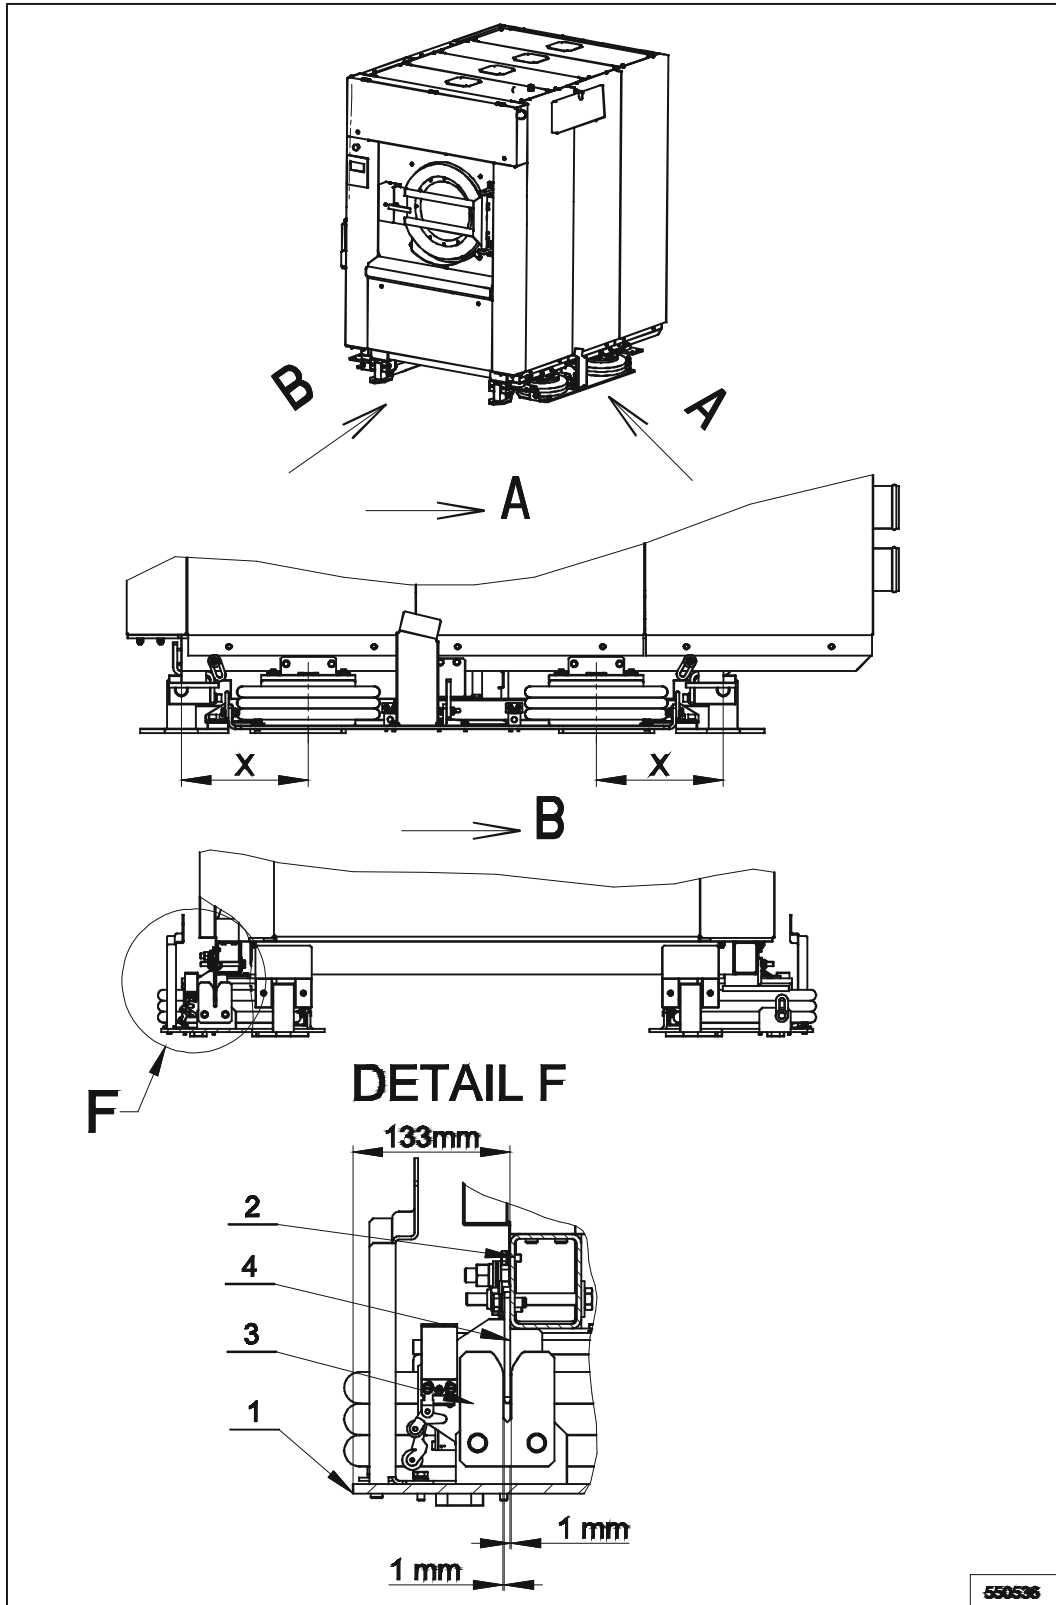

Figure 4.3.L. – Machines 80-100-120 kg / 180-230-275 lb with two-way tilting (forward and backward)
2. Adjust the distance between the air spring plate side (figure 4.3.L., pos.1) and the machine frame (pos. 2) to **133 mm / 5.24"** – see the detailed view **F**.
3. Set the **X** distance (see detailed view **A**) i.e. the distance between the axis of the air springs on the plate (pos.1) from the machine frame. The **X** dimension is the same for both sides.
4. The detail view **F** shows the adjustment of free play between the plates - pos. 3 and 4 on both sides. The distance shall be **1 mm / 0.04"**.
Figure 4.3.M – Machines 80-100-120 kg / 180-230-275 lb with two-way tilting (forward and backward), drilling points for anchoring bolts, (dimensions are stated in mm / inches)